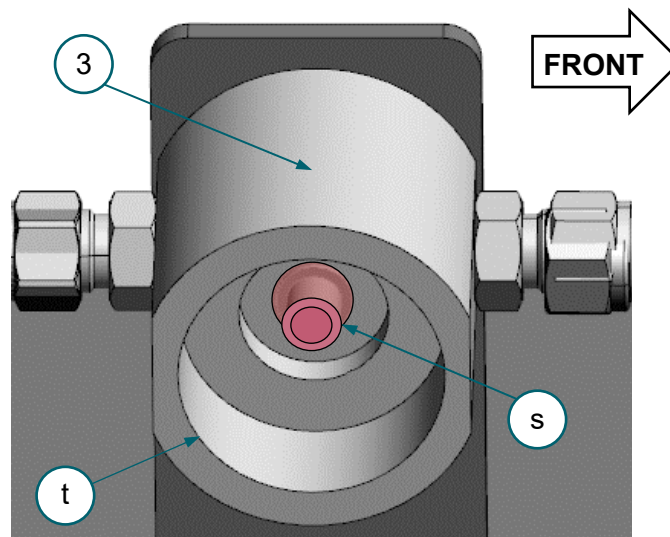

FIGURE 3-4. (3) HP fuel filter head, (s) filter element stem, (t) thread location
4. Inspect (s) filter element stem inside (3) HP fuel filter head. **FIGURE 3-4**
NOTICE (s) filter element stem is an integral part of the (3) HP fuel filter head. *If (s) stem is damaged or missing, obtain new HP fuel filter assembly, from Hexagon Agility® CCTS.* **FIGURE 3-4**